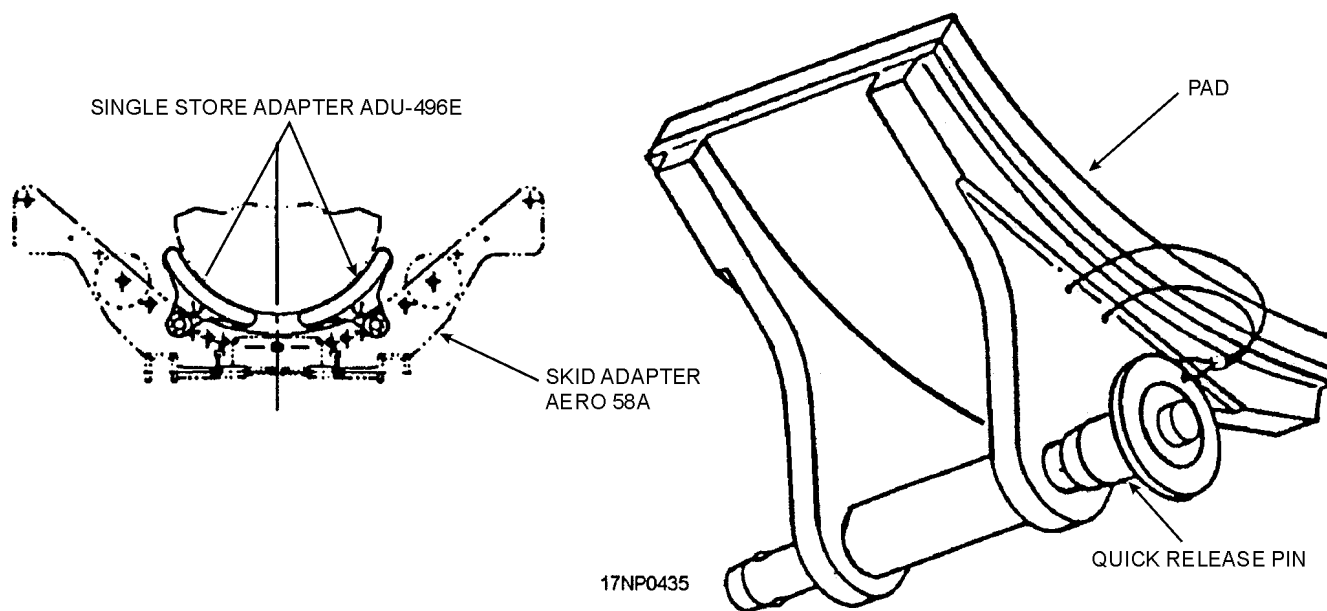

Figure 9-33.—ADU-496A/E single store adapter.
**ADU-496A/E SINGLE STORE ADAPTER.—**The ADU-496A/E (fig. 9-33) consists of a steel body and urethane pad bonded together to form a single unit.